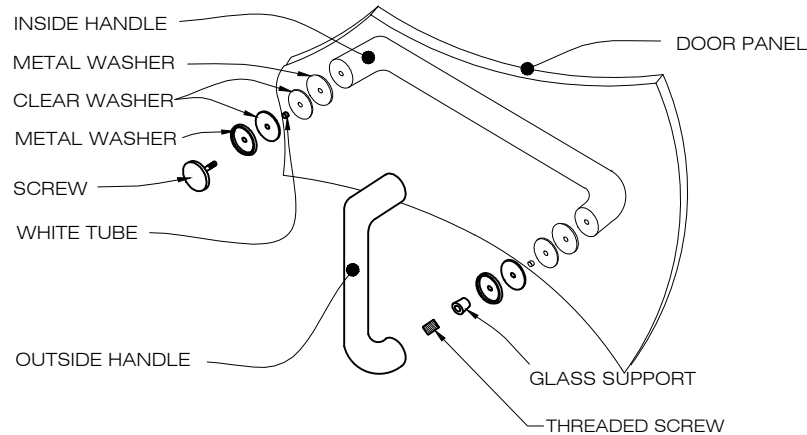

FIG.6
2. Place the handle to to position on the door. Place plastic washers (supplied) on each side of the door. [SEE FIG. 6]